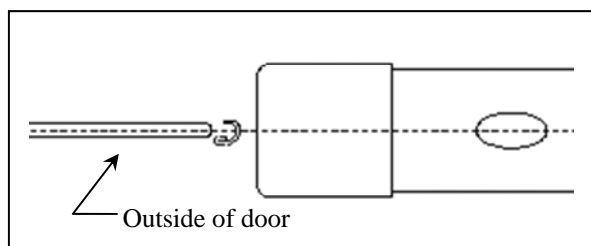

Fig. 1-5
**NOTE:** BEFORE PROCEEDING IT IS EXTREMELY IMPORTANT TO PROPERLY ALIGN THE DOOR EDGE, DOOR EDGE GUARD CHANNEL AND Mallet AS SHOWN IN FIG. 1-5. Mallet TECHNIQUE IS VITAL FOR PROPER INSTALLATION: